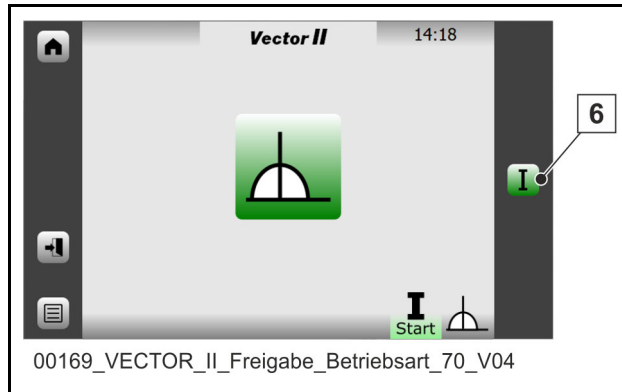

Fig. 89 Release operating mode: Local
- After the selection, release “LOCAL” operating mode by actuating the button (6) (Fig. 89).